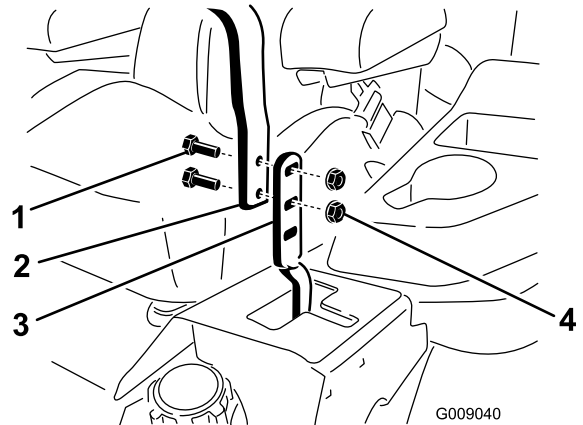

Figure 83
3. Loosen the bolts and flange nuts installed in the levers (Figure 83).